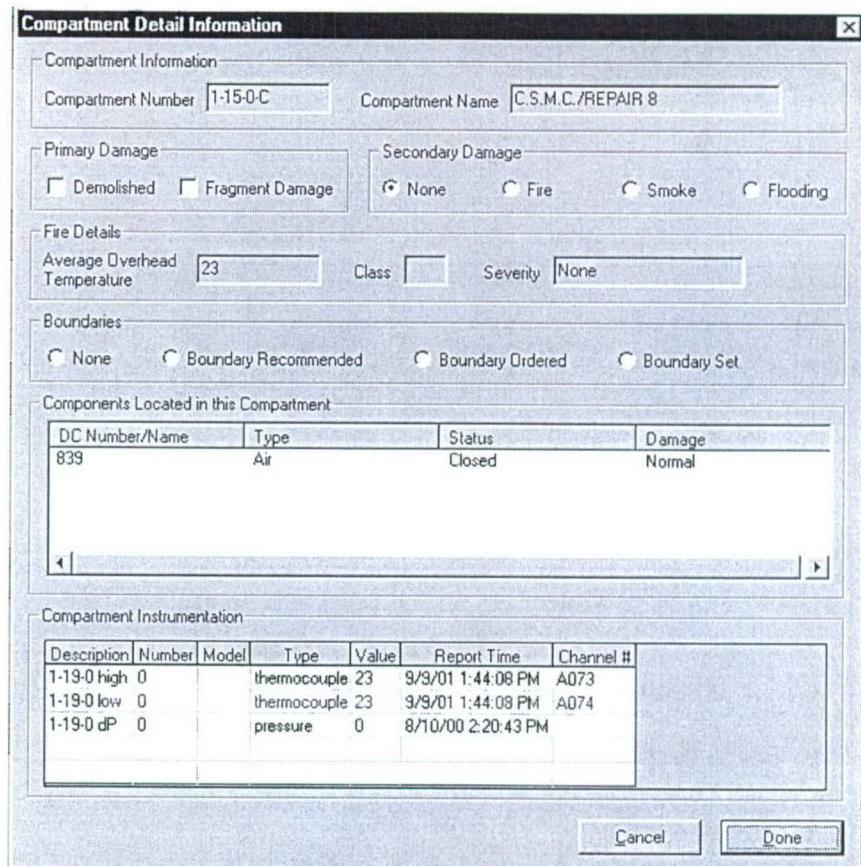

Figure 5-9. Compartment Detail Information Window
- The “Compartment Detail Information” item launches a window that provides more compartment information than can be displayed graphically in the Main View (See Figure 5-9). The top of the Compartment Detail Information Window displays the compartment number and compartment noun-name. The next two rows summarizes the primary and secondary damage states and average compartment temperature based on installed thermocouple readings and the fire severity (small, medium, large, fully involved). The fourth row summarizes the fire boundary state for the compartment. The “Components Located in the Compartment” section lists all of the ship’s assets which are located in the compartment. The component DC number, classification, status/position and condition are summarized for each component in the list. The “Compartment Instrumentation” section lists all of the sensors located in the compartment, model, sensor type, current reading, sensor reading report time, and the data acquisition channel the sensor is wired to. The data in the sensor list refreshes automatically while, the rest of the information in the window does not. The window must be closed and reopened for other information in the window to refresh.